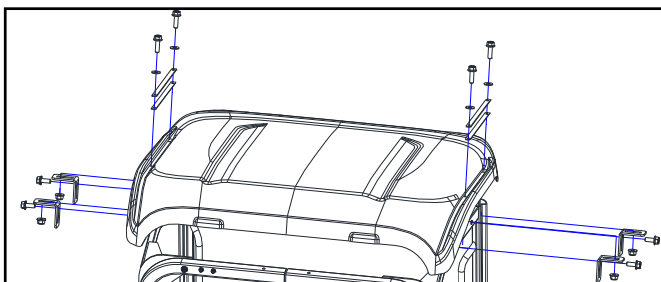

Fig. 1.1
1.1 Per, Figure 1.1, remove canopy by removing four bolts between mounting brackets and plastic canopy and removing the four bolts between the mounting brackets and the ROPS. Retain hardware for reuse.